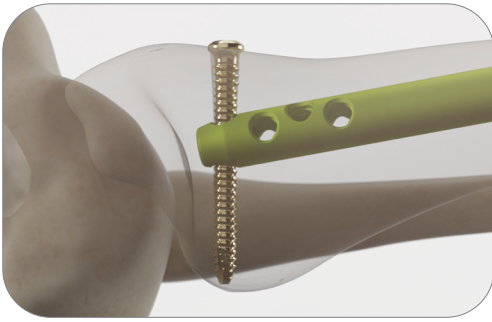

Figure 4.4
4.4 Attach the appropriate diameter and length Locking Screw to the Short or Medium Hexdriver utilizing the Retaining Rod and insert Locking Screw (Figure 4.4).